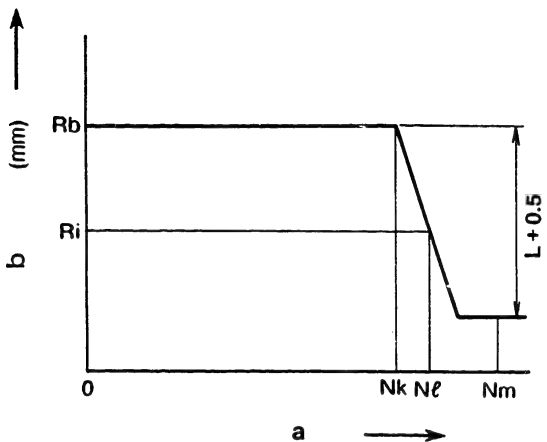

Fig. 150
2. Slowly increase the pump speed, adjust the minimum speed stopper bolt (53) so that the control rod starts moving in the fuel-decrease direction at "Nk rpm" and then fix the locknut (refer to Figs. 150 and 151).
Also increase the pump speed and confirm the flyweight lift (L) for high speed control (refer to Fig. 150).